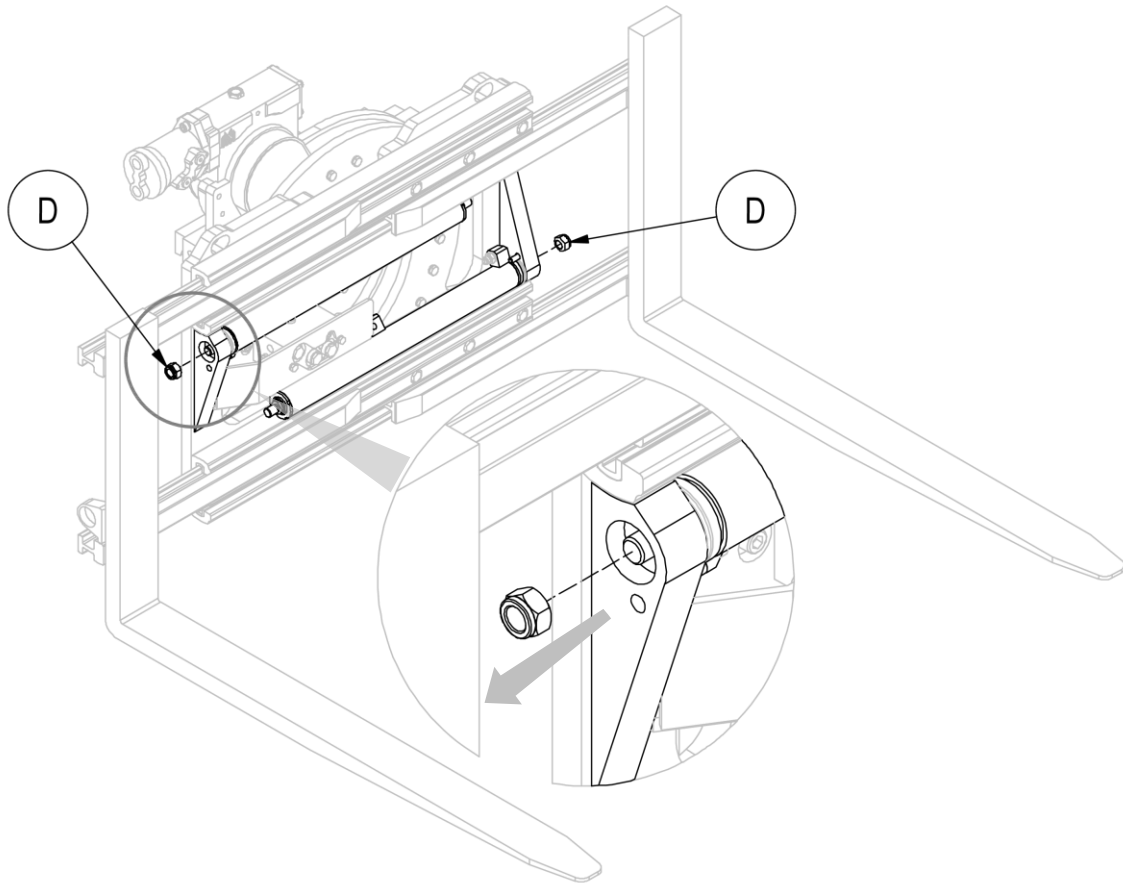

Figure 31
7. Remove, one at a time, the nuts **D** that secure the cylinders to the equipment assembly and remove the cylinders themselves, taking care not to damage them (see *Figure 31*).